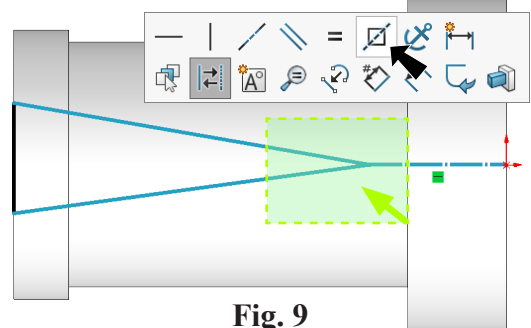

Fig. 9
Step 5. Drag a selection to **left to cross angled lines and centerline**. Click **Make Symmetric**  on the context toolbar, **Fig. 9**.